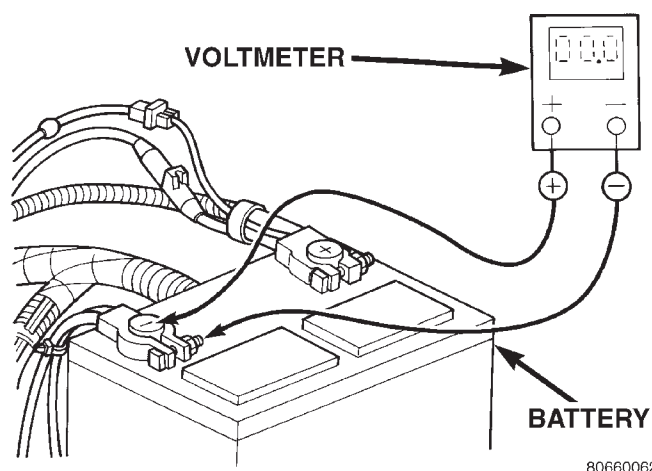

Fig. 10 Test Battery Negative Connection Resistance - Typical
(1) Connect the positive lead of the voltmeter to the battery negative terminal post. Connect the negative lead of the voltmeter to the battery negative cable clamp (Fig. 10). Rotate and hold the ignition switch in the Start position. Observe the voltmeter. If voltage is detected, correct the poor contact between the cable clamp and the terminal post.